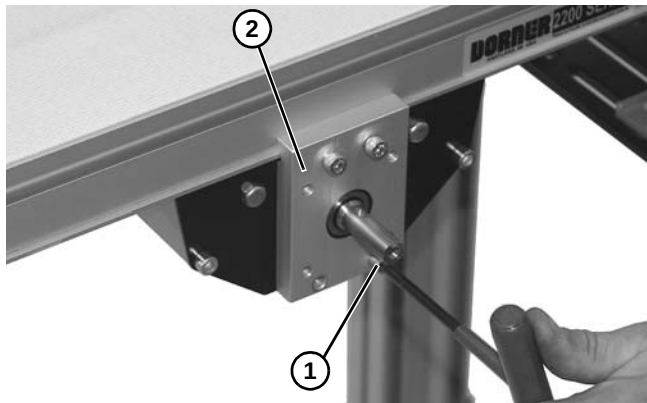
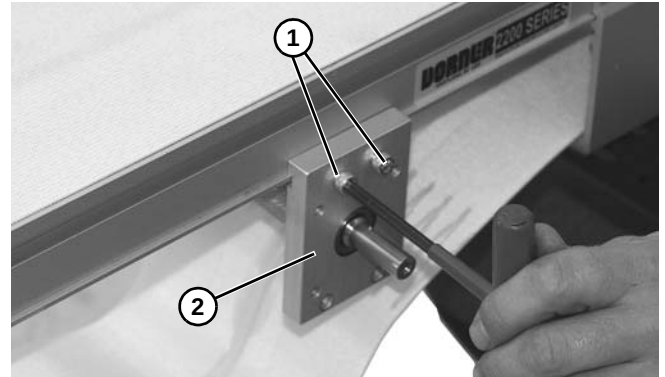

Figure 60
Figure 62
3. Loosen one M6x25 socket head screw (**Figure 60, item 1**) from each side of mounting block (**Figure 60, item 2**).
5. Loosen two M6x25 socket head screws (**Figure 62, item 1**) from each side of mounting block (**Figure 62, item 2**).
10. Tighten socket head screws (**Figure 60, item 1**) and (**Figure 62, item 1**) to 60 in-lb (7 Nm).